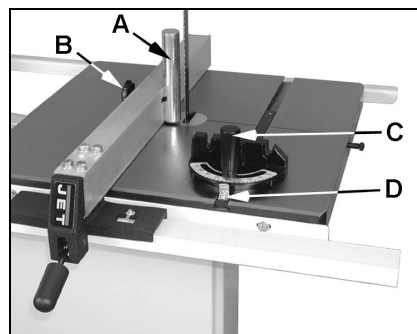

Fig 6
For resawing attach the post (A, Fig 6) to the fence with the lock knob (B). Position the post so that it is centered with the blade teeth.